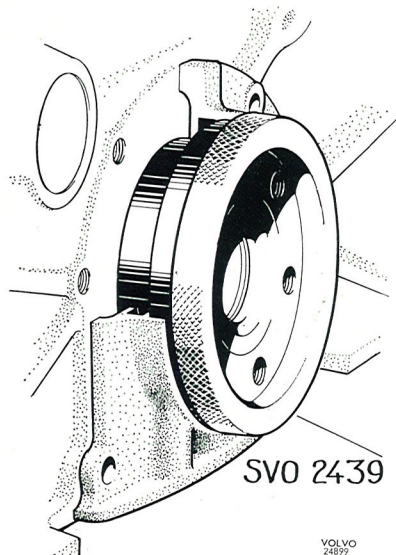

Fig. 2-41. Centering the rear sealing flange
3. Centre the flange with sleeve SVO 2439, Fig. 2-41. Turn the sleeve round while tightening the bolts and adjust the position of the flange if the sleeve jams. Check that the flange comes flush against rotate easily.